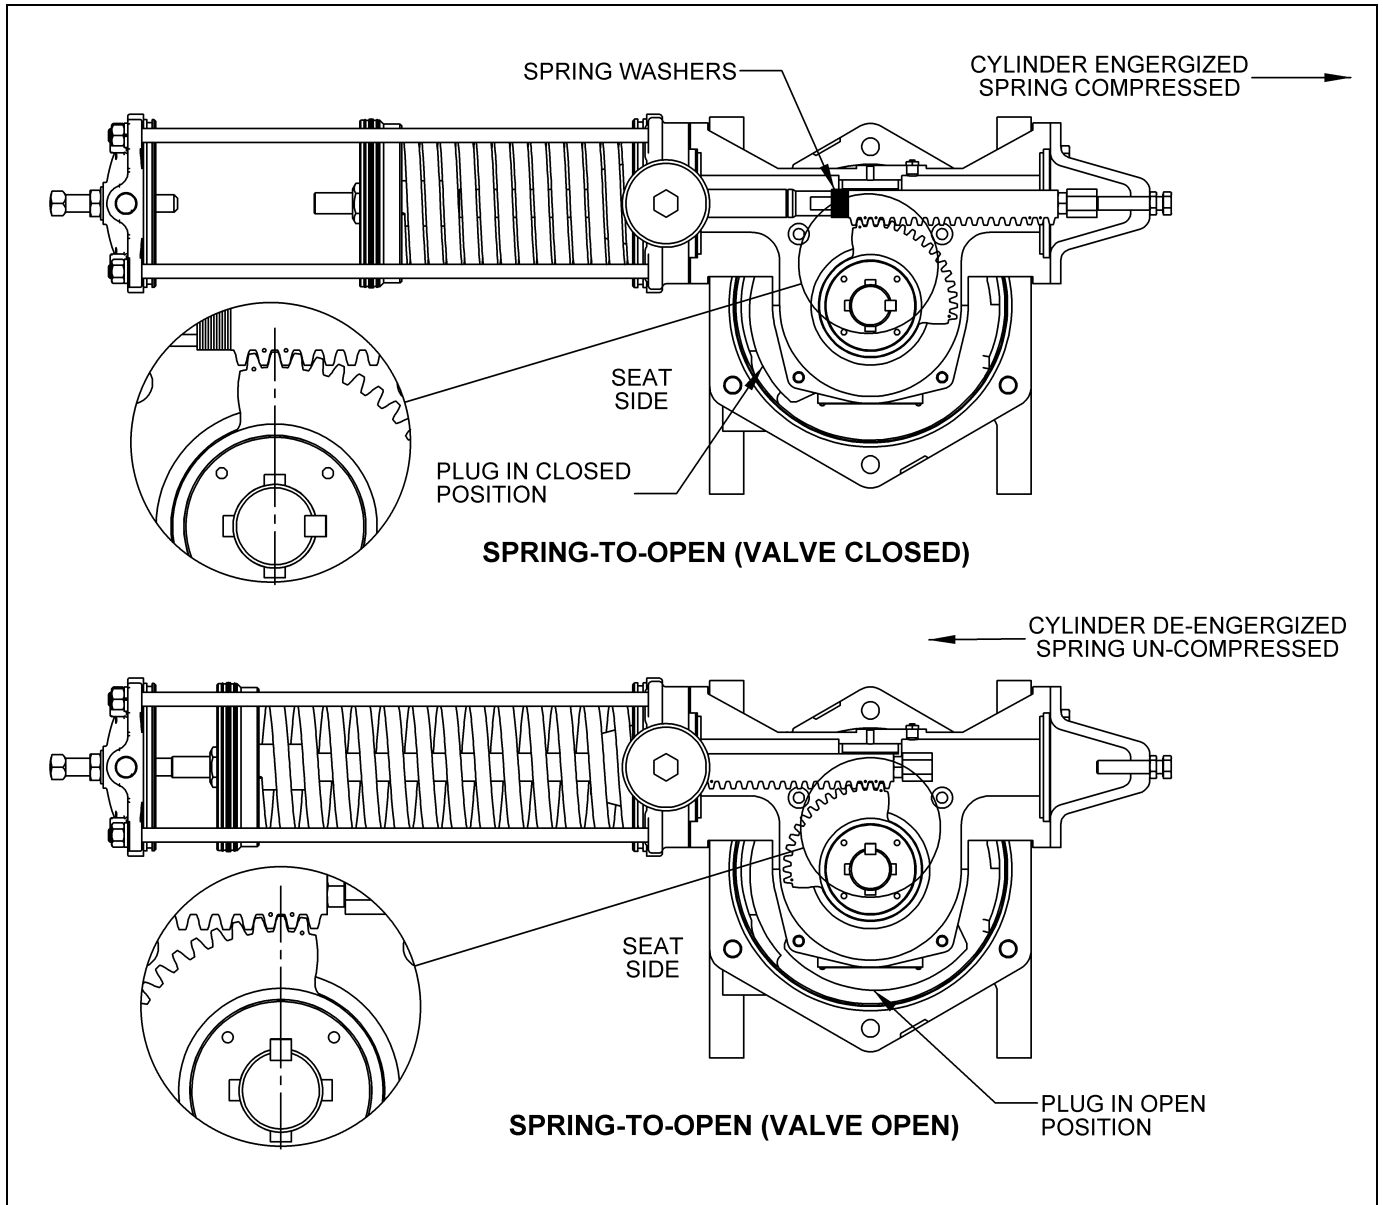

Figure 8 – Actuator Spring-To-Open (6A actuator shown)
This procedure can be performed with the actuator installed on the valve or removed. See Figure 8 for Spring-to-Open assembly.
9. Lift the gear sector (B3) off the valve shaft, slide the rack (B4) away from the cylinder end of the housing (B1) one tooth. Then slide the gear sector back onto the valve shaft. See Figure 8 for tooth alignment detail.
12. Install the cylinder/rack rod assembly by sliding the rack rod through the opposite end of the housing (B1) and the rack (B4) and fasten the cylinder assembly to the housing with screws (B27). See Figure 8 for Spring-to-Open assembly.